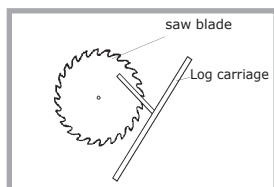

Fig. 6
- Fit the new blade on the shaft. Note direction of rotation. All tools must always work against the feed direction that is revolutions must occur towards the operator's station. (see Figure 6)